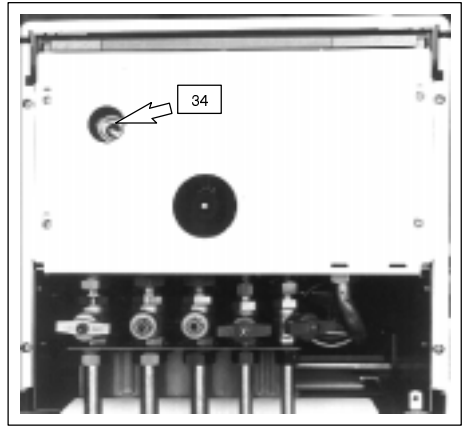

fig. 3.4
- 5 Connect the pressure relief valve's outlet to a drain (34 in fig. 3.4).